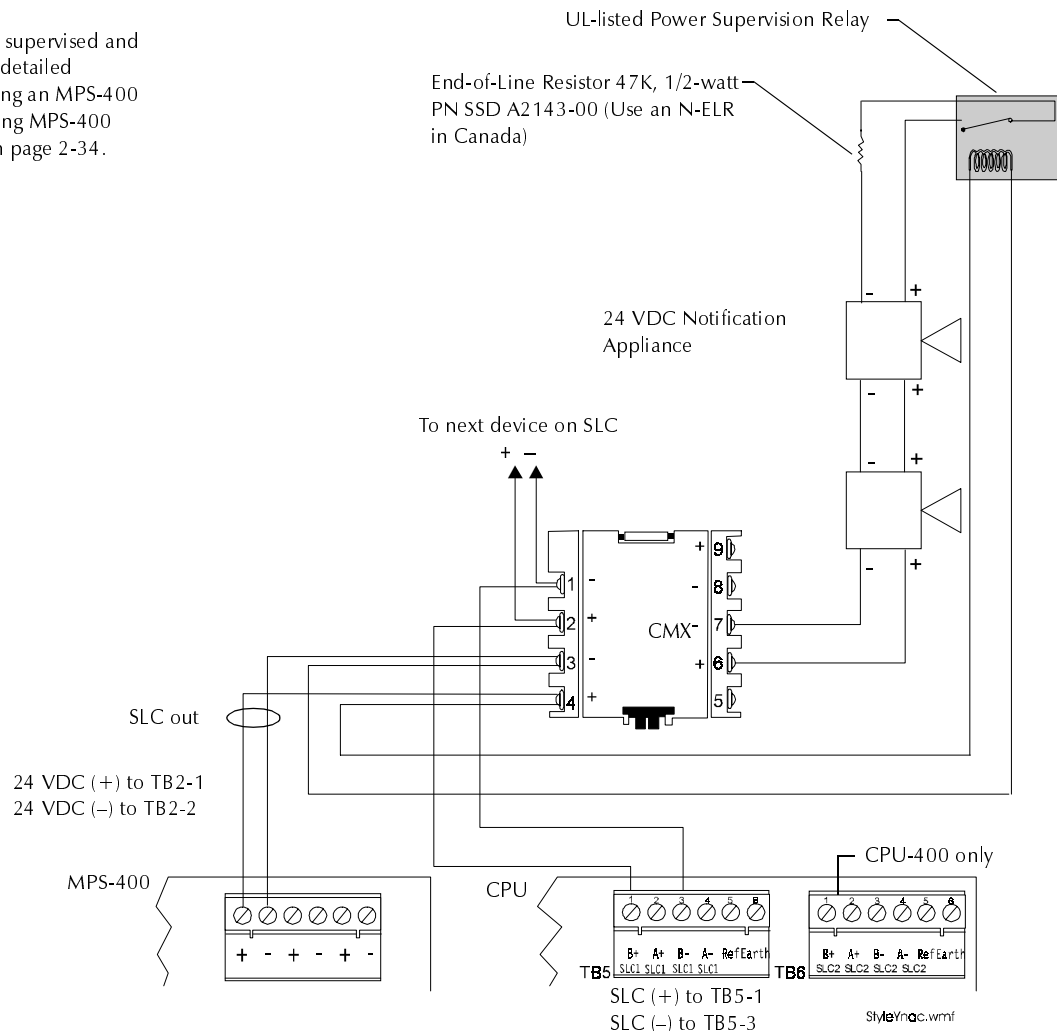

Figure 2-75 Typical Wiring for an NFPA Style Y NAC
Figure 2-75 shows a supervised and power-limited NFPA Style Y NAC using a CMX module. This shows polarized alarm notification appliances connected to CMX modules in a two-wire configuration. A CMX module can control 2 A of resistive load (on electronic devices) or 1 A of inductive load (on mechanical bells and horns). If installing more than one CMX NAC, install the power supervision relay on the 24 VDC power bus after the last CMX.
2. Connect 24 VDC power to MPS-400 TB2 (Figure 2-75).